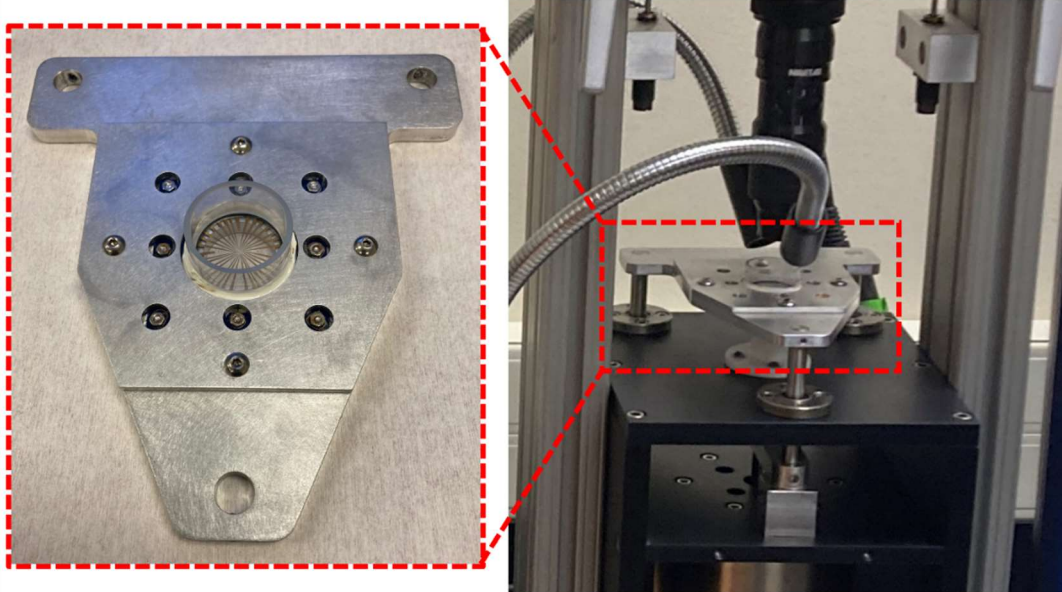

Fig. 68: Mechanical holder with an sMEA on the bench and on the MEASSuRE frame.
- If electrophysiological measurements are **not** planned, the sMEA or stretchwell is placed in the mechanical holder as an alternative to the interface board (**Fig. 68**).